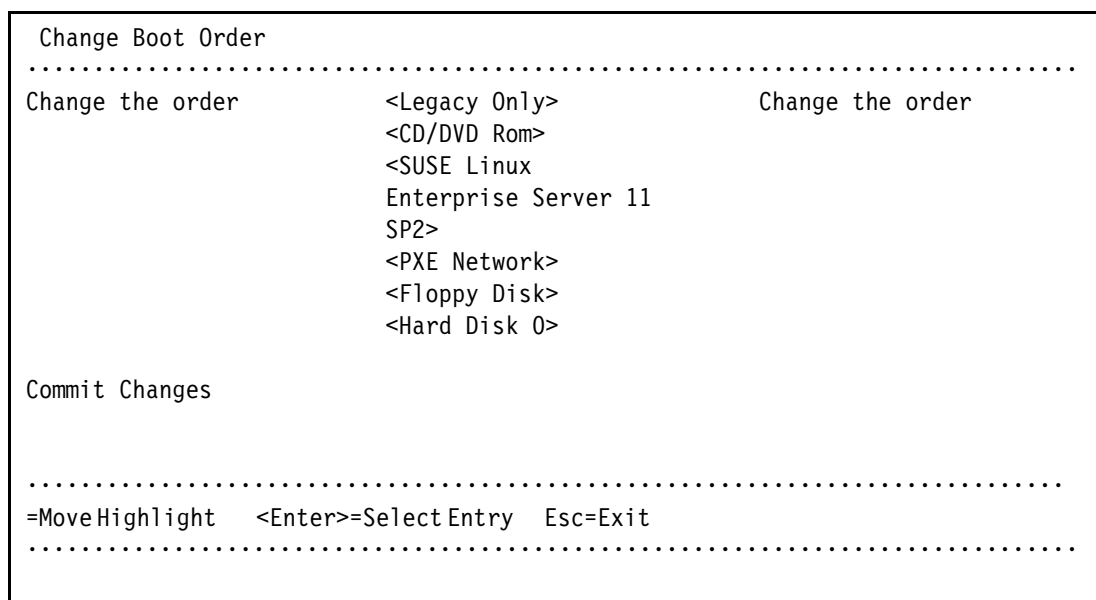

Figure 9-53 Change Boot Order panel
6. In the Change Boot Order panel (Figure 9-53), follow these steps: